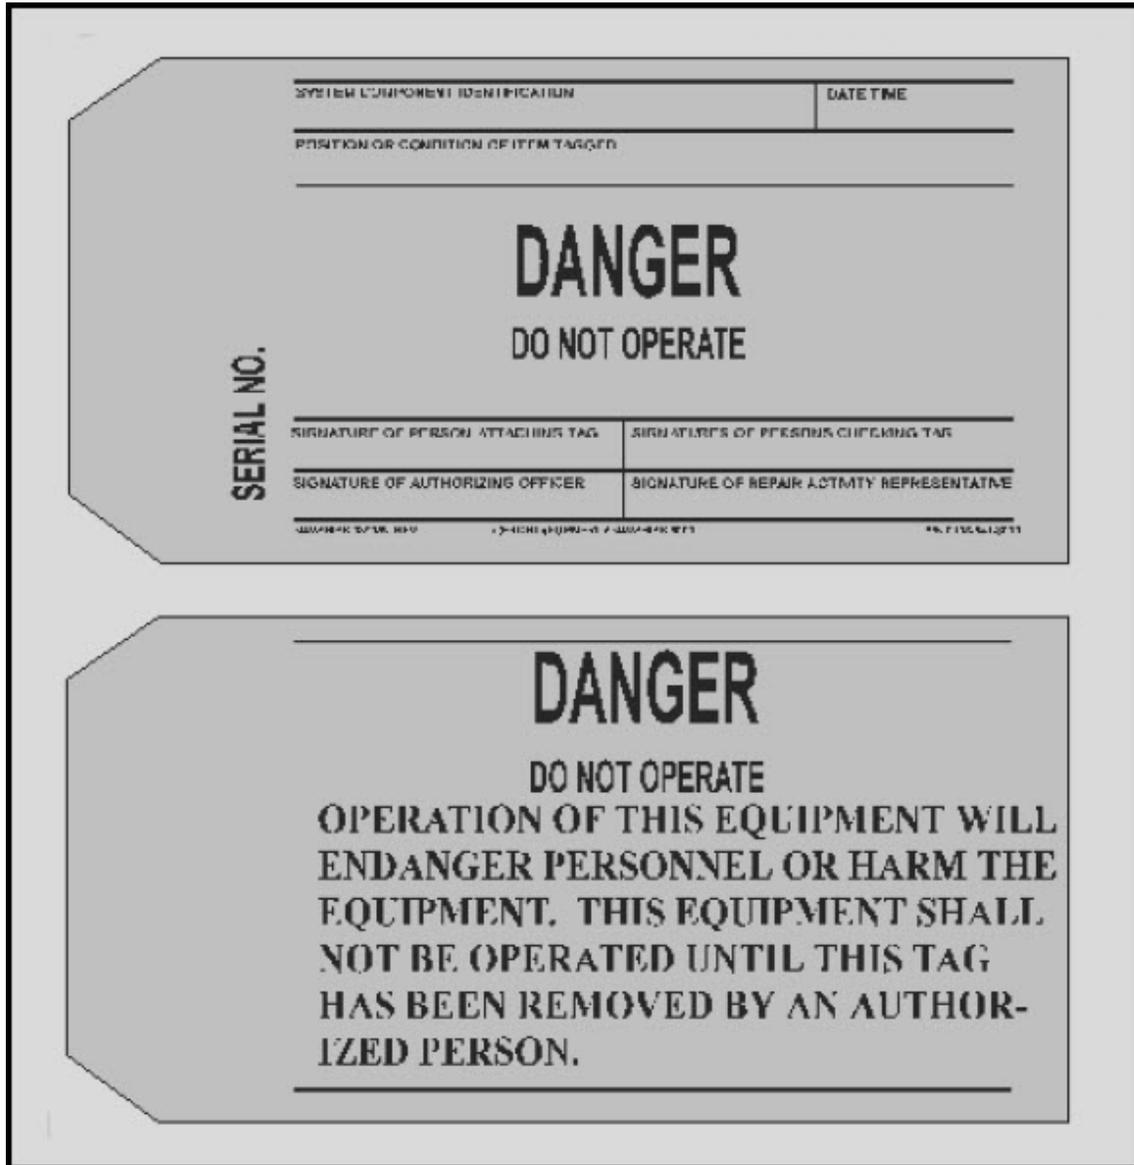

Figure 3-14 DANGER tag
- All supply switches or cutout switches from which power could possibly be fed should be secured in the OFF or OPEN (safety) position and tagged (figure 3-14). The tagging procedures must be done in accordance with the appropriate manual or instruction for your field of training.